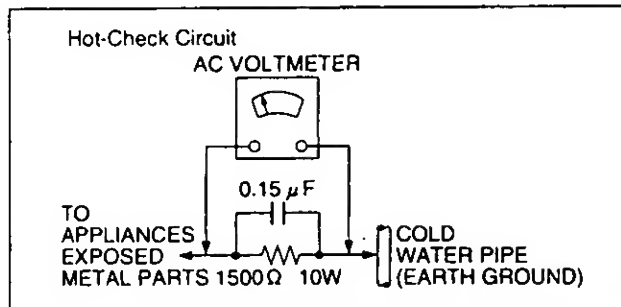

Figure 1
LEAKAGE CURRENT HOT CHECK (See Figure 1)
2. Connect a $1.5k\Omega$, 10W resistor, in parallel with a $0.15\mu F$ capacitor, between each exposed metallic part on the set and a good earth ground such as a water pipe, as shown in Figure 1.